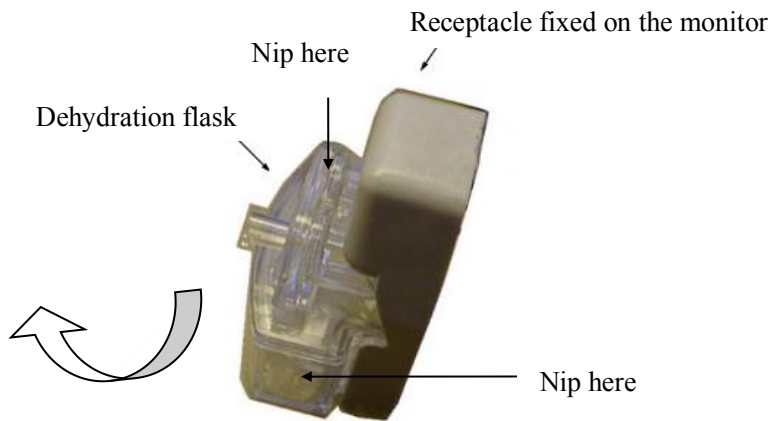

Fig.5-7-2 Remove sketch map of dehydration flask
- According to the Fig. 5-7-2, nip slantways the dehydration flask and disconnect from the receptacle fixed on the right panel of monitor. It will be remove the dehydration flask.